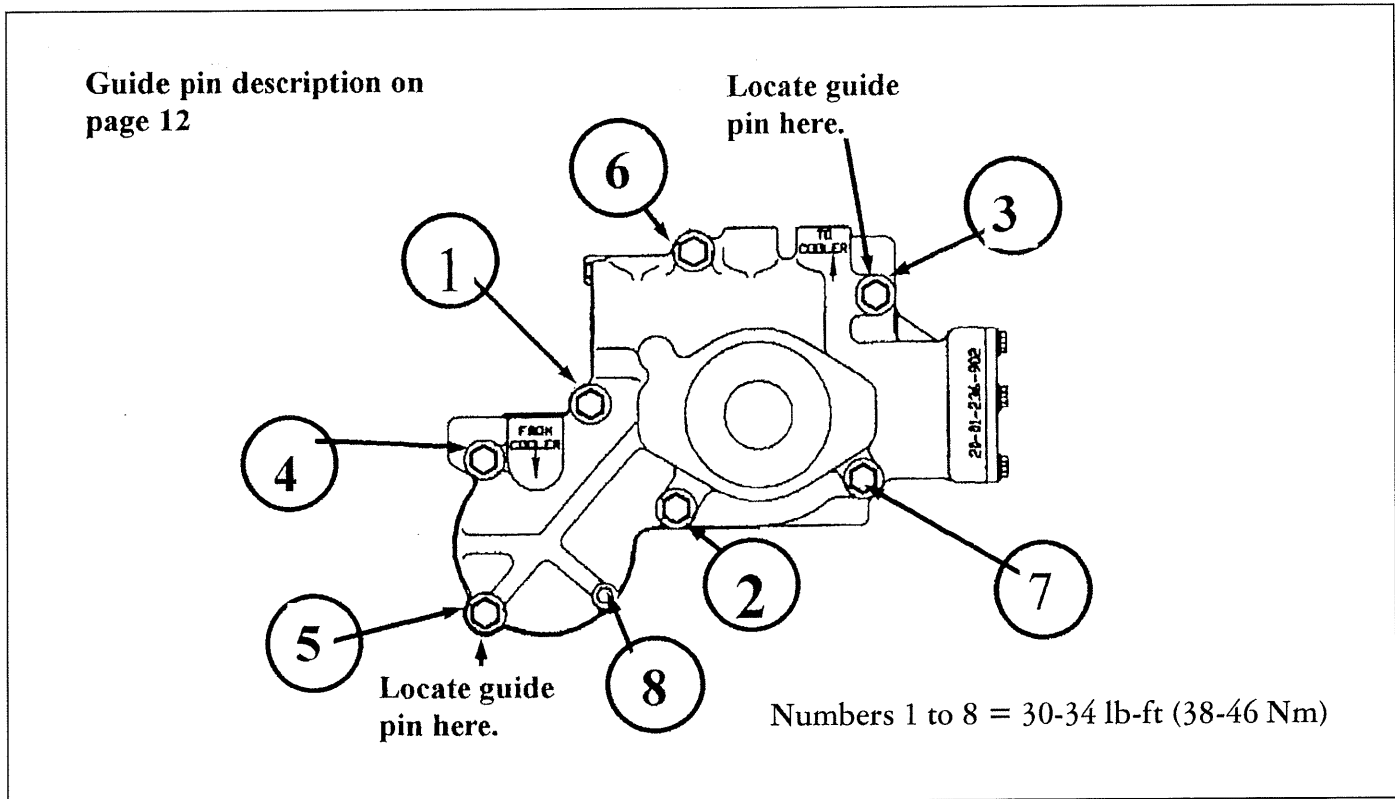

Figure 1-13: Pump housing bolt tightening sequence
1. Align the male flats on input shaft (733) with the female flats in the pump (203) by placing pump housing assembly over shaft with an oscillating motion until the mating surfaces come together.
2. Install two guide pins (figure 1-13) in case (160) on opposite sides of the pump mounting surface. Remove the pump assembly from the transmission case.
3. Position gasket (108) on mounting surface.
4. Install o-ring (201) in groove around pump (203) (o-ring not required with crescent pump).
5. Position shim packs (109) determined in section 5-21, page 44 of Liberty Series™ Angle Service Manual on bearing cups (110 & 111).
6. Carefully slide the pump assembly over the guide pins and finger tight five bolts (104), remove the guide pins and finger tight the two remaining bolts (104).
1. First, tighten bolts (104) to 15 lb-ft using the pattern illustrated in Figure 1-13. Then tighten to 30-34 lb-ft.